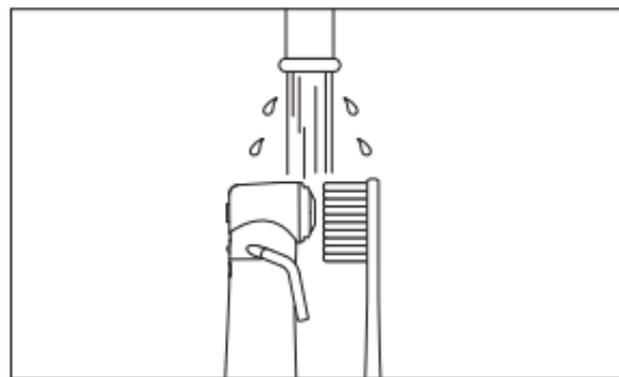

Fig. 16
- 1) Clean the external surfaces of the handpiece with a soft bristled toothbrush for 15 seconds or more. (Fig. 16)